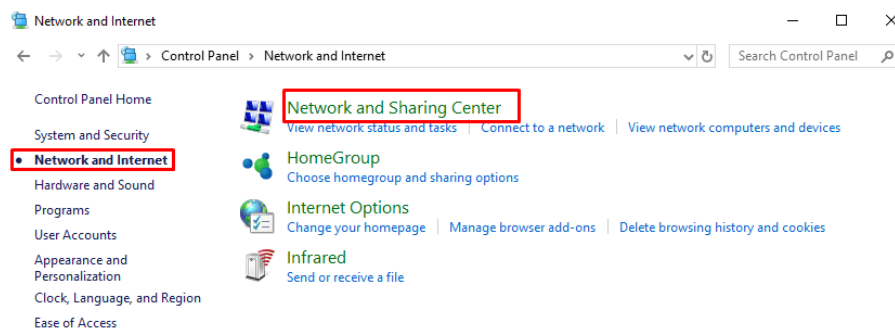

Figure A.2: Network and internet page
Step 2 Click on the “Network and Internet” option (Figure A.2).